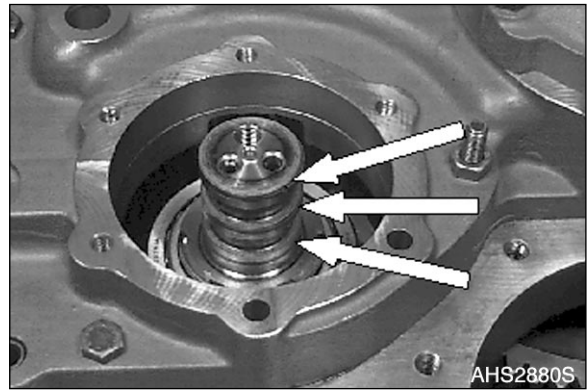

Figure 340
32. Grease and align the rectangular rings (Figure 340) centrally.